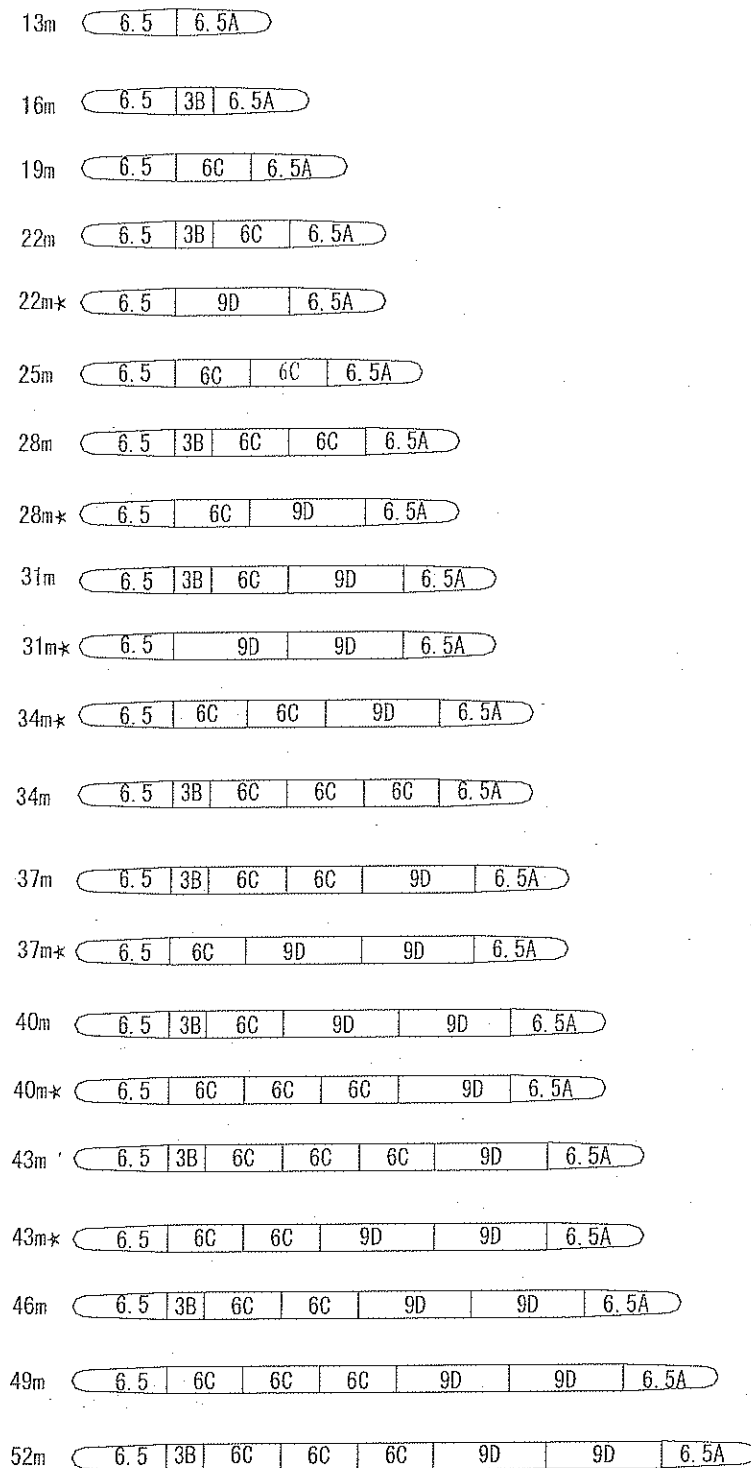

Figure5-1 Connecting ways of main boom without jib and main guy rope
(2) Combination of main boom with jib can also choose from 13m~43m in figure 5-1.